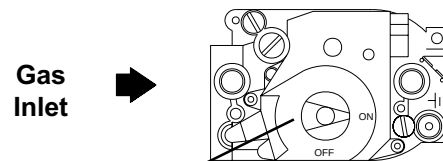

Figure 20. Gas control knob shown in "ON" position.
6. Wait five (5) minutes to clear out any gas. If you then smell gas, **STOP!** Follow "B" in the safety information above. If you don't smell gas, go to the next step.
7. Turn gas control knob counterclockwise  to "ON". See Figure 20.